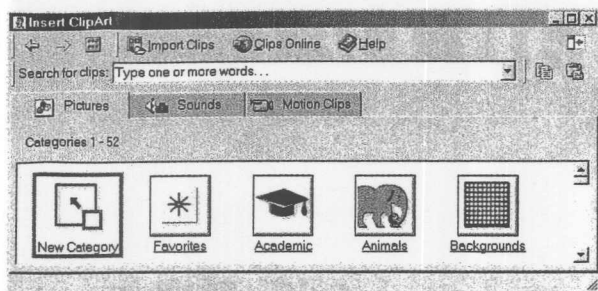

Figure 3
2. Click on the "New Category" icon (Figure 3) and type the name (for example, MyCad) for your Library when prompted, then click "OK."